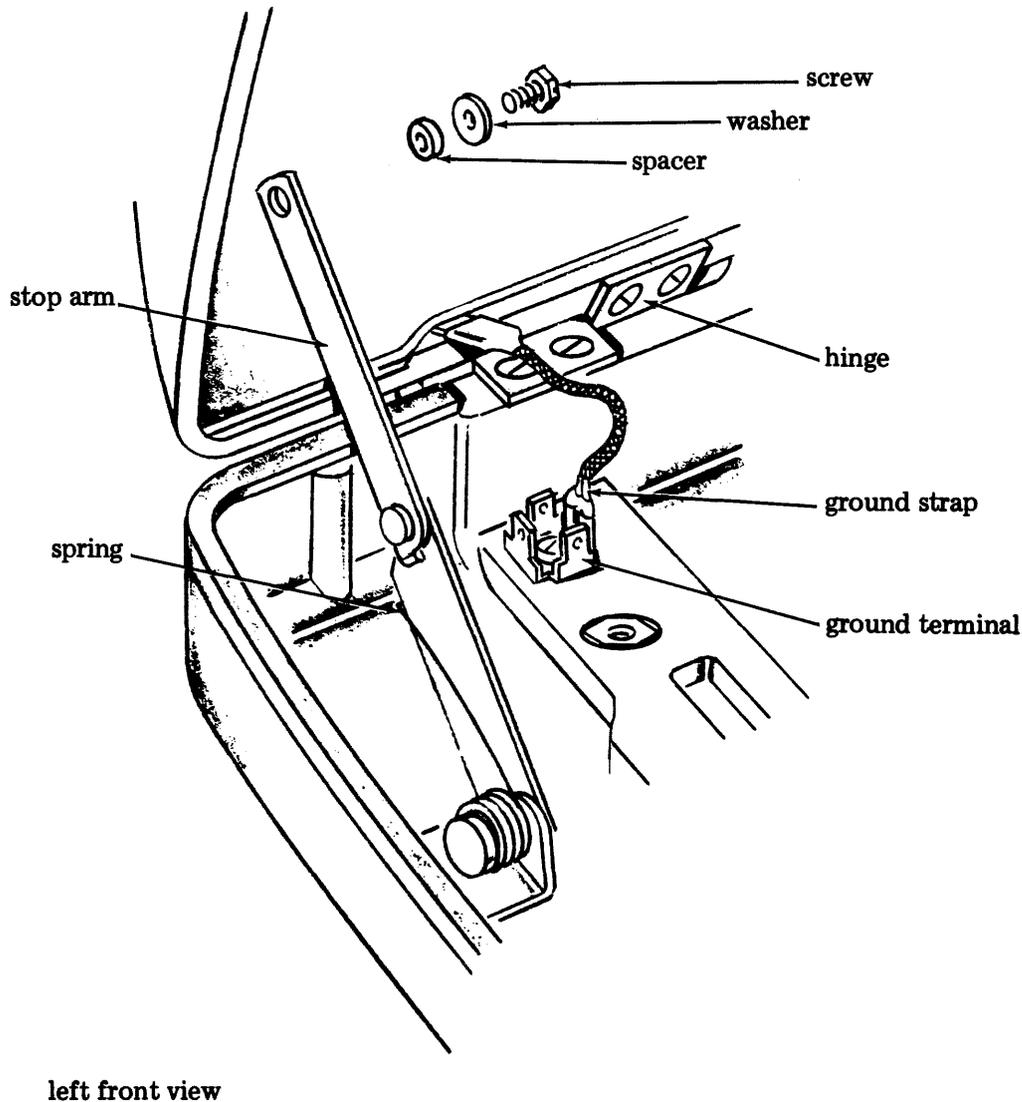

Figure 1 - 38 Teletypewriter Cover
2.01 Remove cover (Figure 1) from teletypewriter as follows: